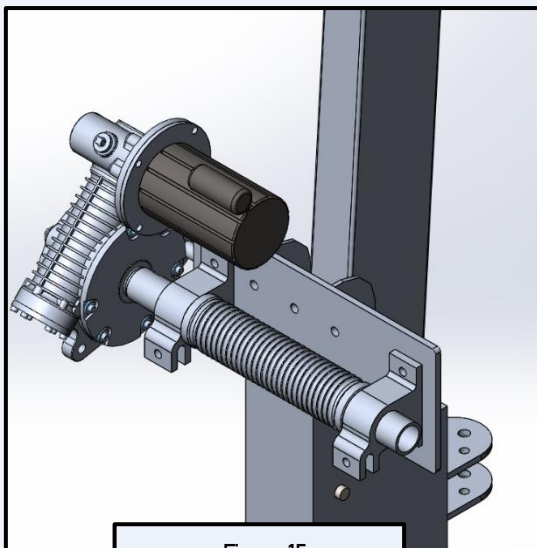

Figure 15
2. Rotate motor so that capacitor cover is oriented upward and the four holes in the motor housing align with the four holes in the flange as shown in figure 15.
3. Slip one (1) 3/8" Lock Washer over one (1) 3/8" X 1" Hex Bolt and insert it through the hole in the motor mount and into the threaded hole in the flange and securely fasten.